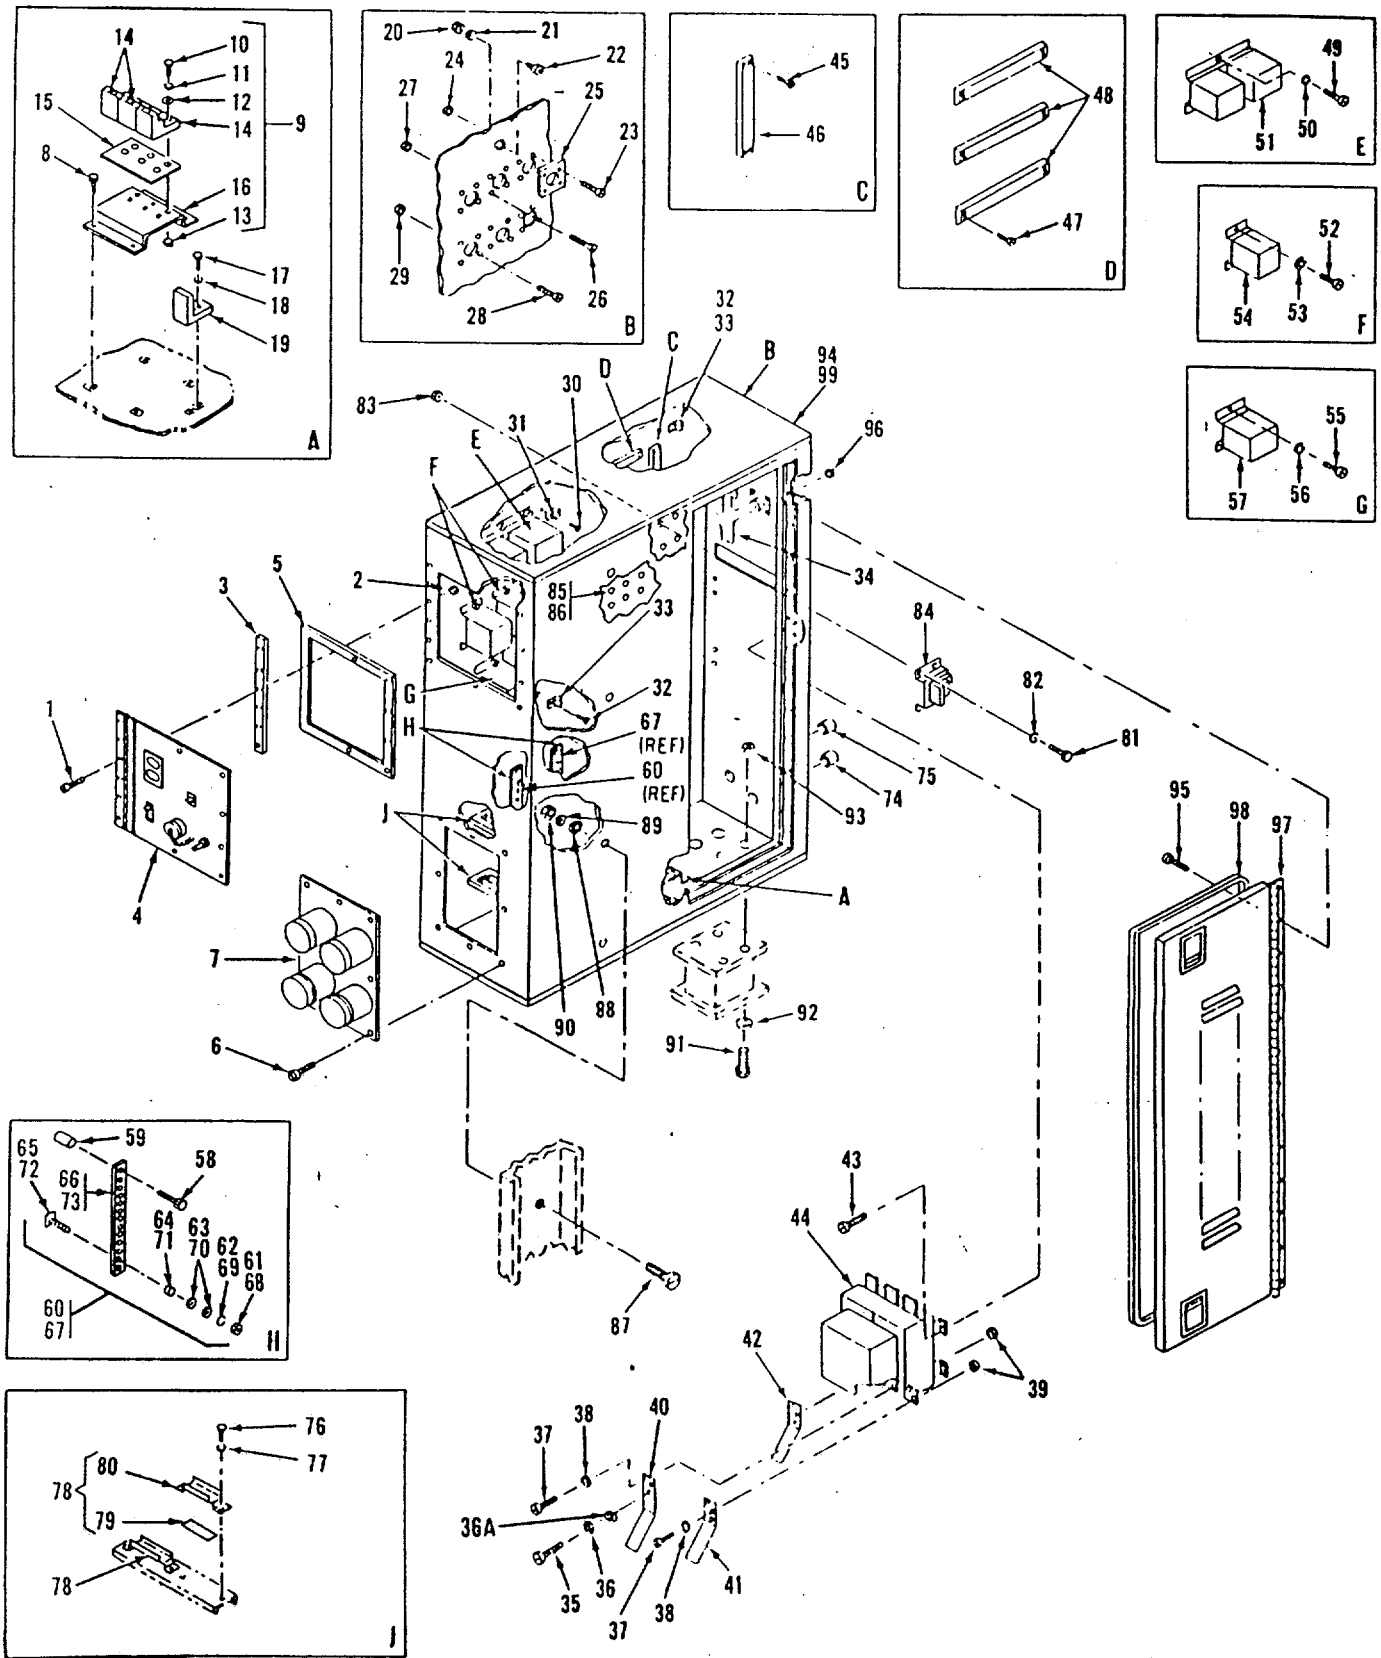

Figure 3-1. External Power Box Assembly, Exploded View
a. Removal. Refer to Operator/Crew and Organizational Maintenance manual for removal of preheat system contactor K107 (54, figure 3-1) and heater contactor K109 (54, figure 3-1).
b. Repair. (See figure 3-2.) Repair preheat system contactor K107 (54, figure 3-1) by replacing contacts, armature, and coil, as follows:
a. Removal. Refer to Operator/Crew and Organizational Maintenance manual for removal of preheat system transfer contactor K108 (51, figure 3-1).
b. Repair. (See figure 3-3.) Repair transfer contactor K108 (51, figure 3-1) by replacing contacts, armature and coil in each contactor, as follows:
a. Removal. Refer to Operator/Crew and Organizational Maintenance manual for removal of motor contactor (57, figure 3-1).
**LEGEND FOR FIGURE 3-1**
- (6) Set switch to off.
- (7) Remove and reconnect jumper across L1 and L3.
- (8) Remove and reconnect load to X2 and T3 terminals.
- (9) Set switch to on. Ammeter should read approximately 8.3 amps.
- (10) Slowly increase load to 4260 watts. Ammeter should read 35.5 amps and relay should trip between 4260 watts (35.5 amps) to 4584 watts (38.2 amps)
- (11) Set switch to off and reset overload handle.
- (12) Adjust variable load to zero load.
- (13) Set switch to on.
- (14) Adjust variable load for 1000 watt load. Ammeter should read 8.3 amps.
- (15) If ammeter readings are erratic, contacts are worn or badly pitted and should be replaced. If there is no reading, armature, coil, or contacts may be defective and should be replaced. If overload relay does not trip at specified load, replace overload assembly.
c. Repair. (See figure 3-4.) Repair motor contactor K120 (57, figure 3-1) by replacing contacts, armature, overload assembly, and coil, as follows: